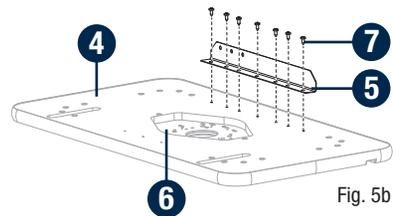

Fig. 5b
- Loosen and remove the screws (1) and nuts (2) from the switch box (3).
- Place the table top (4) upside down on a flat surface.
- Position the front rail (5) in the front of the insert plate (6) area with the three holes on the front rail located on the outside of the table top (4) as shown in Fig. 5b.
- Secure the front rail (5) in place using seven front rail screws (7).
- Hold the switch box (3) so that the arrow marked with word "I" on the toggle switch is upside down.
- Line up the three holes in the switch box (3) with the three holes on the outside of the front rail (5).
- Insert the switch box screws (1) through the holes in the switch box (2) and through the holes in the front rail (5).
- Install the switch box nuts (2) on the back of the switch box screws (1).